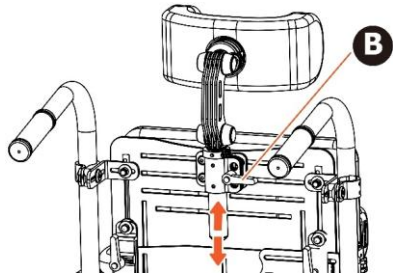

Figure 9.31
- Loosen the adjustable lever **(B)**, then adjust the headrest upward or downward to a suitable height. Last, tighten the headrest adjustable lever **(B)** (See Figure 9.31).